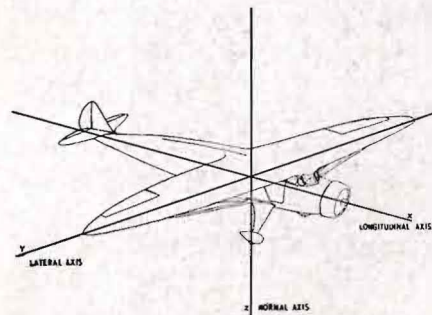

Fig. 12.
(8) *Fitting Parts.* The set up of a model is of first importance. An understanding of the three axis: the longitudinal axis, lateral axis, and normal axis, will be a great help in aligning the model, because all parts must be centred along these lines. The fitting of each part must be done with this in mind. (Fig. 12).